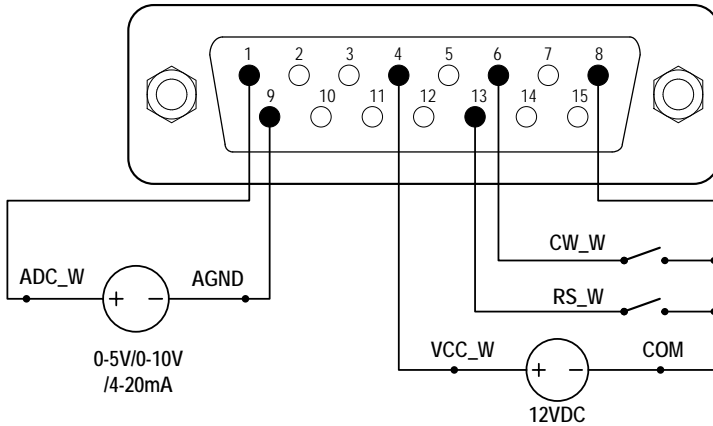
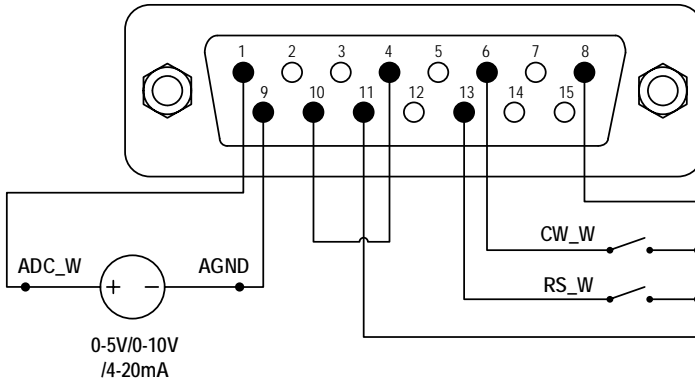

Figure 14. External Control with External 5V or 12VDC Power Source
Figure 15. External Control with Internal 12VDC Power Source
- 1) Turn the power off. Wire the external signal as shown on Figure 14 or Figure 15, and connect DB15 connector to the DB15 port on the rear of pump.